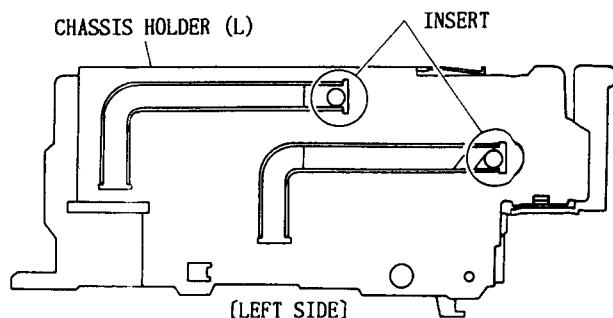

Fig 5-4
- * Check that two (2) bosses of the cassette holder are inserted into the grooves on the left of the chassis holder. (Fig. 5-4)